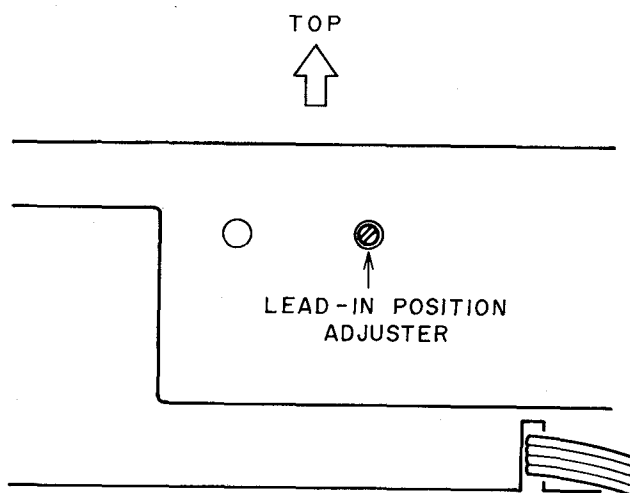

Fig. 6-4 Rear View
6-5 LEAD-IN POSITION ADJUSTMENT (Refer to Fig. 6-4)
- 3) If this Lead-in position is incorrect, it can be adjusted by turning the Lead-in Position Adjuster shown in Fig. 6-4 clockwise or counter-clockwise with a flat type screw-driver.